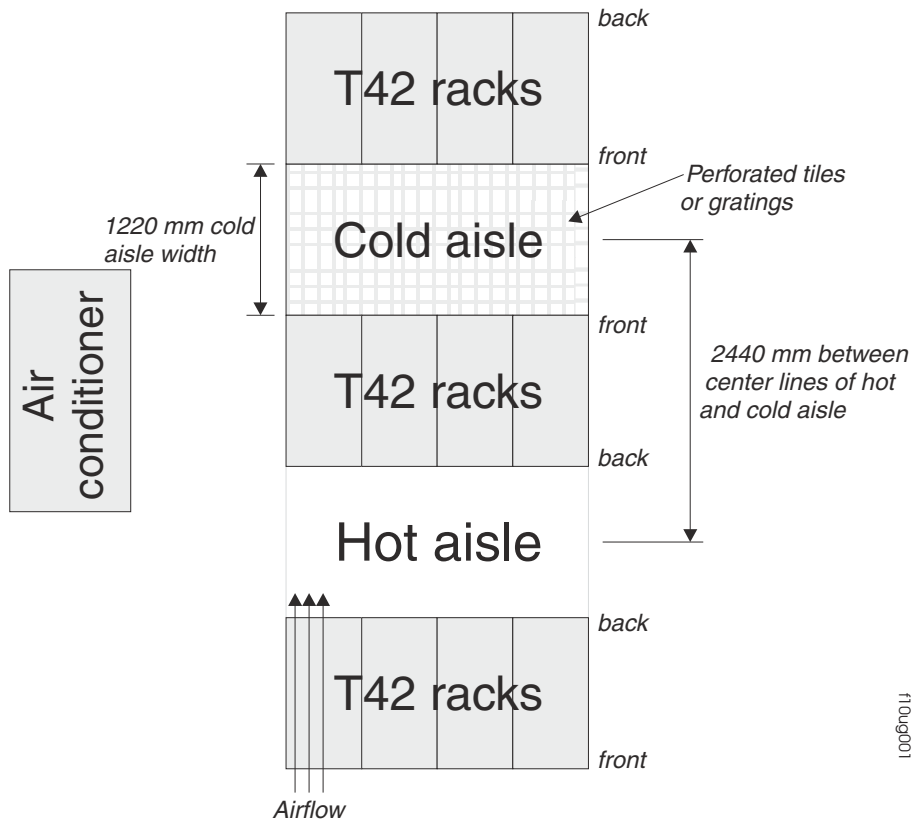

Figure 11. Example of cold aisle/hot aisle rack cabinet configuration
- Air enters at the front of the rack cabinet and leaves at the back. To prevent the air that is leaving the rack cabinet from entering the intake of another piece of equipment, you must position the rack cabinets in alternate rows, back-to-back and front-to-front. This arrangement is known as *cold aisle/hot aisle* and is shown in Figure 11 on page 30.